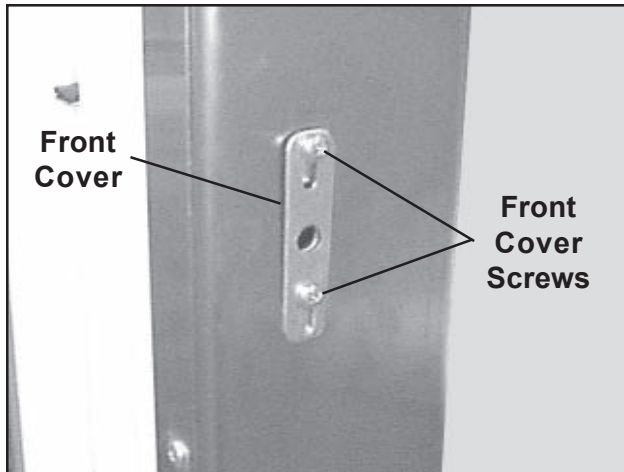

Figure 69. Front Cover
4. With a Phillips screwdriver, remove the two front cover screws (Figure 69) and lift off the front cover.